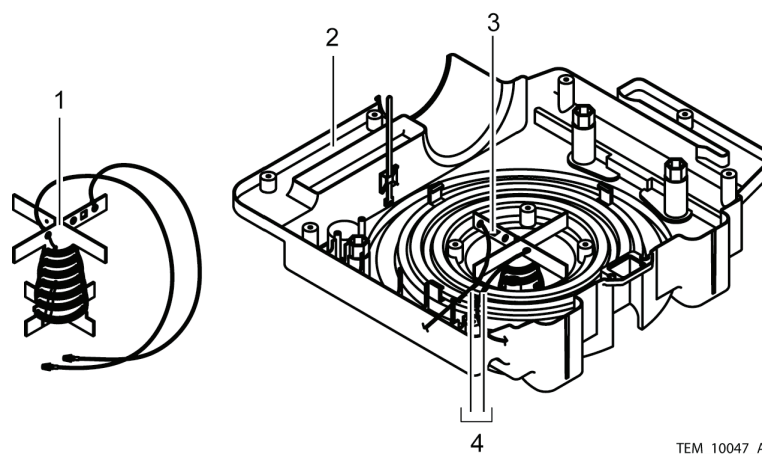

Figure 76. Heater Assembly Installation
Ensure that the heater temperature sensor (Figure 76, item 1) is oriented upward when reinstalling the heater in the rear cover assembly.
31. Slide the heater into the replacement rear cover assembly (see Figure 76).
32. Route the wires from the heater through the cut-outs in the rear cover assembly. See Figure 76, item 4.